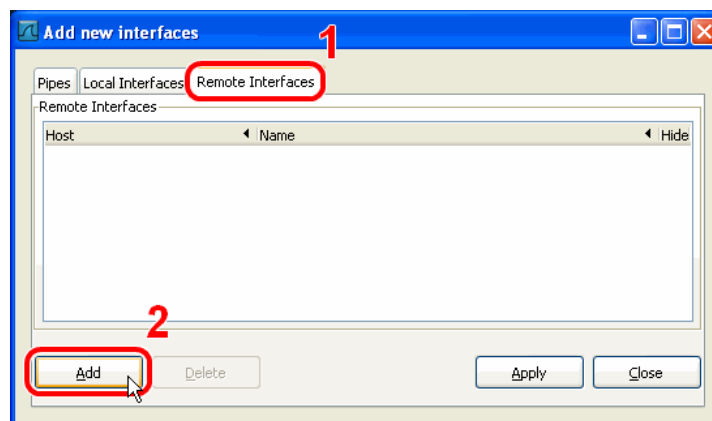

Figure 63: Wireshark Add New Interfaces Dialog.
3. Select the **Remote Interfaces** tab and click **Add** as shown in Figure 63.